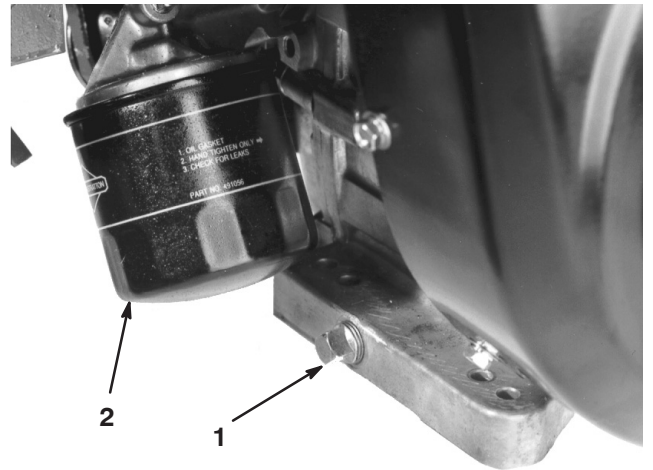

Figure 45
1. Remove the drain plug (Fig. 45) and let oil flow into a drain pan. When the oil stops, install the drain plug.
2. Remove the oil filter (Fig. 45). Apply a light coat of clean oil to the new filter gasket.